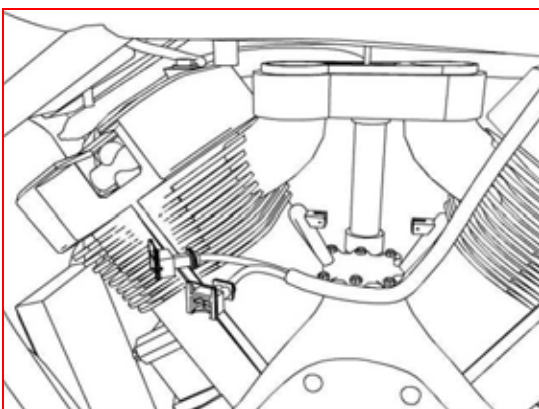

Fig 10
10. Feed the injector harness out the left side. (See figure 10)